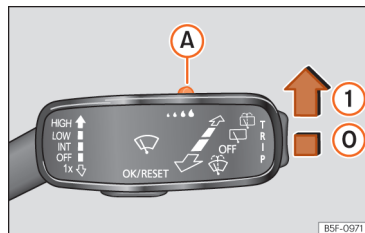

Fig. 108 Windscreen wipers lever: adjust the rain sensor **A**.
>>> **Fig. 108**.
- ① Rain sensor on; automatic wipe if necessary.
When the ignition is switched off and then back on, the rain sensor stays on and starts operating again when the windscreen wipers are in position >>> Fig. 108 ① and the vehicle is travelling at more than 16 km/h (10 mph).